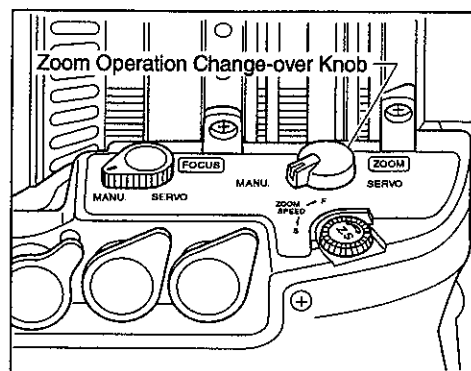

Fig. 2-1
1. Set the zoom operation change-over knob at the bottom of the drive unit to the MANU. position. (See Fig. 2-1)